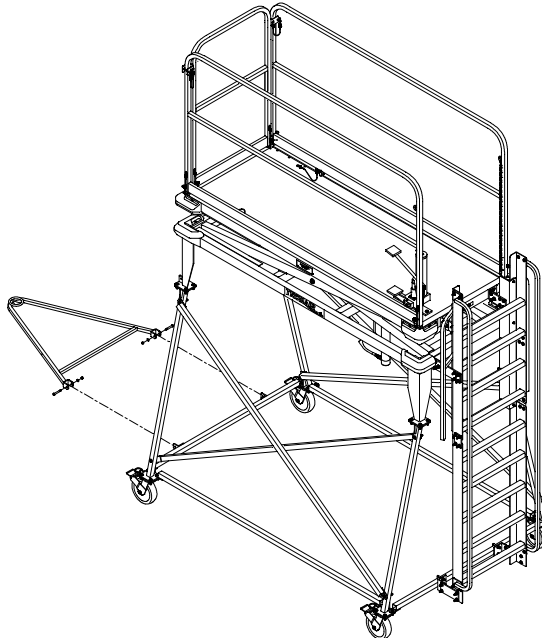

FIGURE 5
7. Install the towbar using $\frac{3}{8}$ inch diameter shoulder bolts (See **Figure 5**).